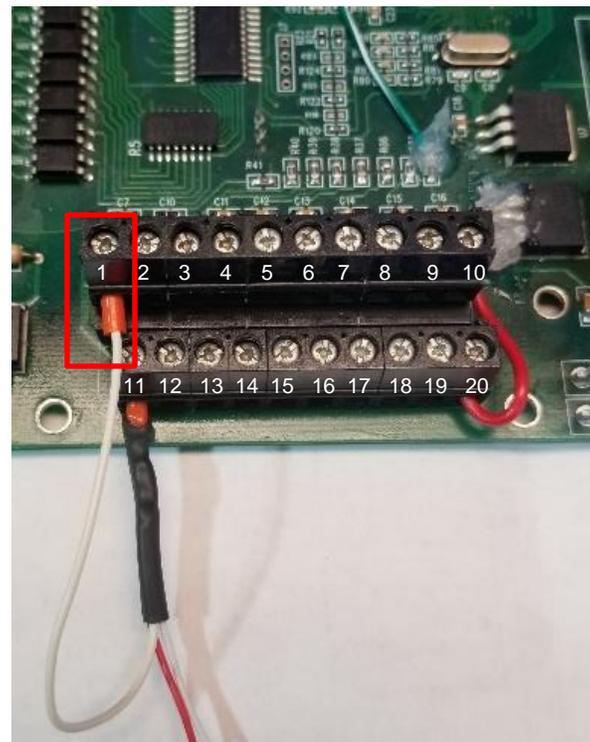

Figure 5-9: Signal Connection
3. For well #1, wire the Signal white wire from the optic sensor into the #1 analog input seen in Figure 5-9.